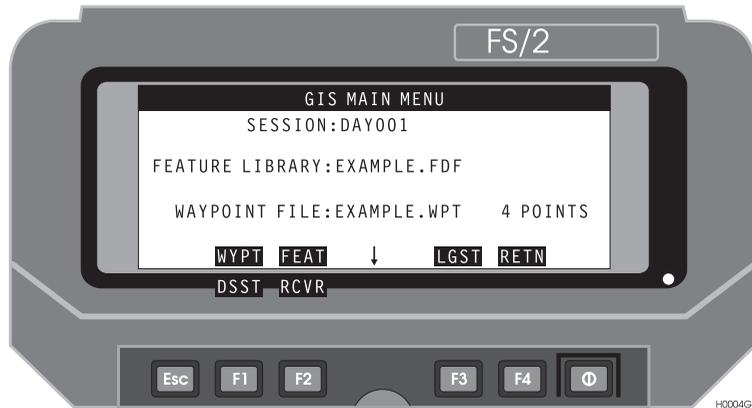

Figure 3.12: GIS Main Menu
2. Press **F3 (GIS)**, to call the GIS Main Menu, Figure 3.12.
1. Start FAMlog, and call the GIS Main Menu, Figure 3.12.